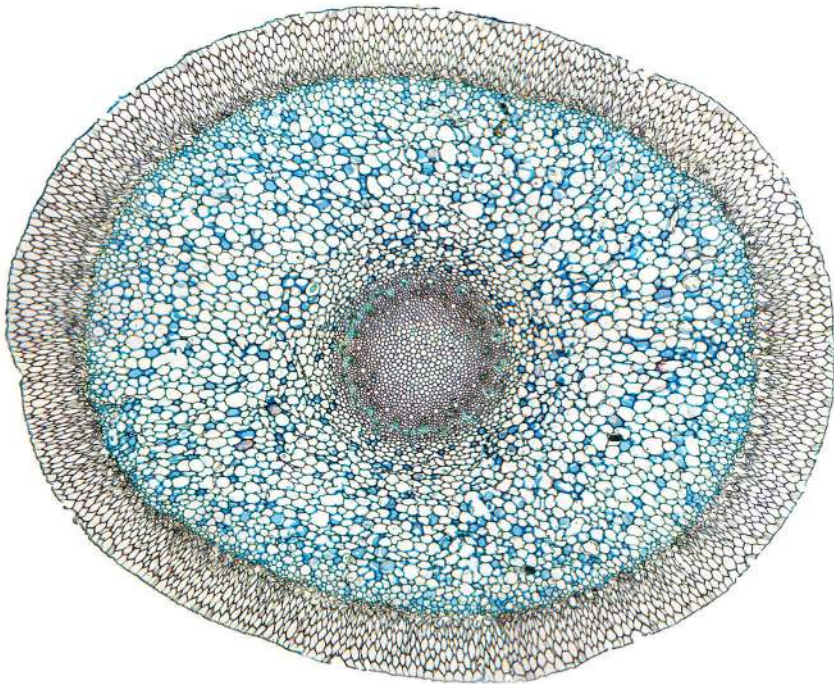
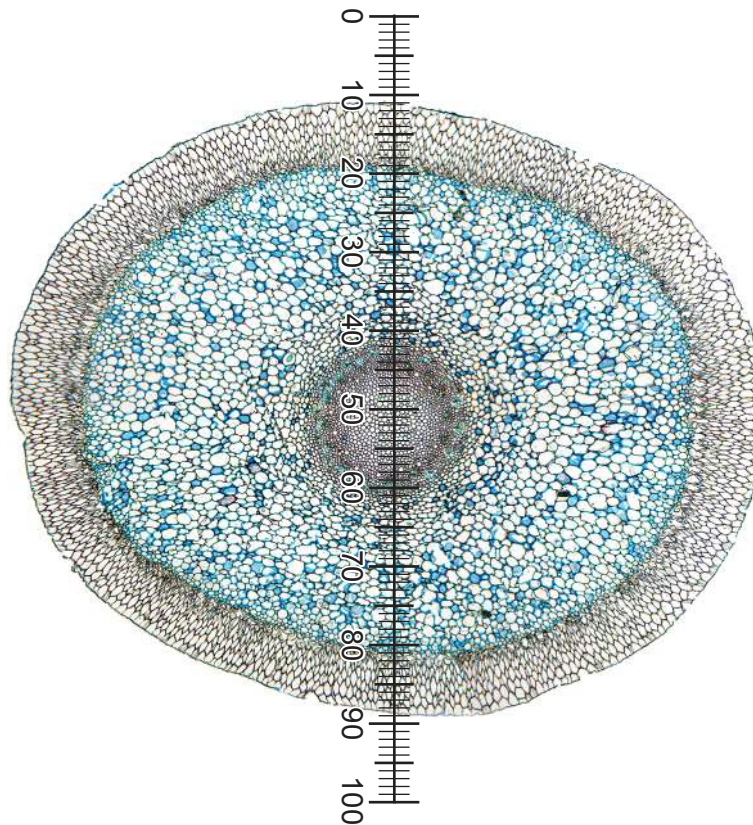

Fig. 2.2
Fig. 2.3
(b) Fig. 2.2 is a photomicrograph of a stained transverse section through a root of a different type of plant.
Identify the observable differences between the section on **K1** and the section in Fig. 2.2.
- (c) Fig. 2.3 is a photomicrograph of the same root section as in Fig. 2.2, viewed using a microscope with an eyepiece graticule placed across the section.
An eyepiece graticule is shown on Fig. 2.3.
Use the calibration of the eyepiece graticule scale to calculate the actual diameter of the section in Fig. 2.3.